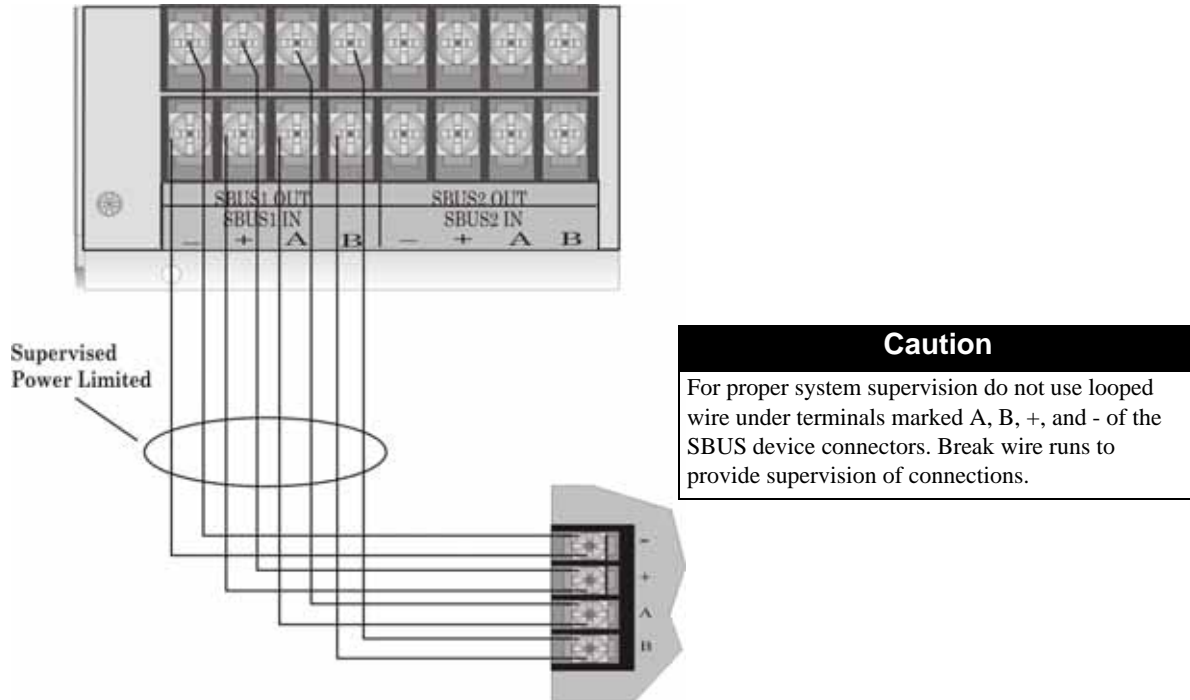
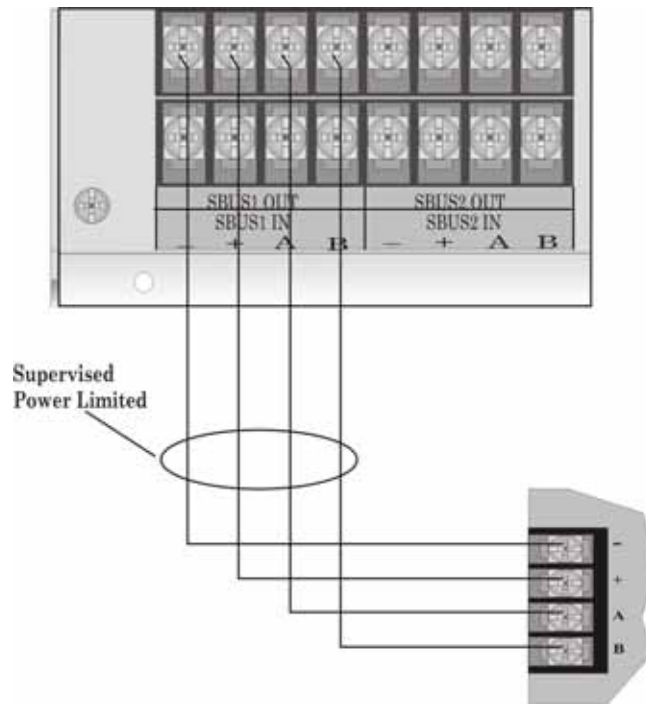

Figure 4-7 SBUS Class A Wiring
Figure 4-8 SBUS Class B Wiring
Figure 4-7 illustrates SBUS 1, Class A wiring configuration and Figure 4-8 illustrates SBUS1 Class B configuration. SBUS 2 wiring configurations are the same as SBUS1.
3. Wire the annunciator board to the main control panel. See Figure 4-8.